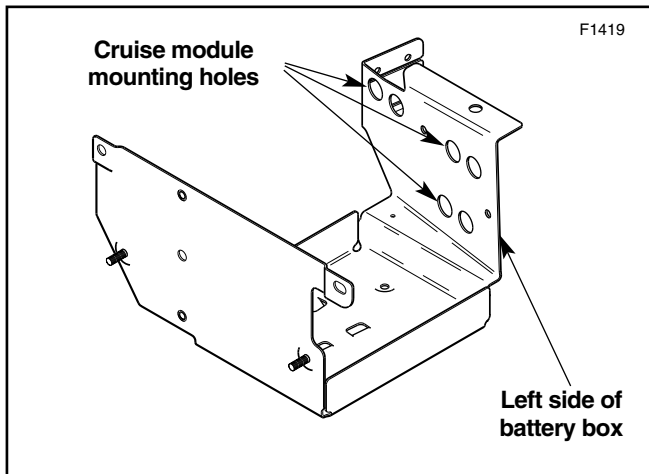

Figure 1. Cruise Module Mounting Holes
3. See Figure 1. Identify mounting holes for cruise control module on left side of battery box.
4. See Service Parts illustration. Place grommets (6) through holes shown in Figure 1 with large diameters on inside of battery box.